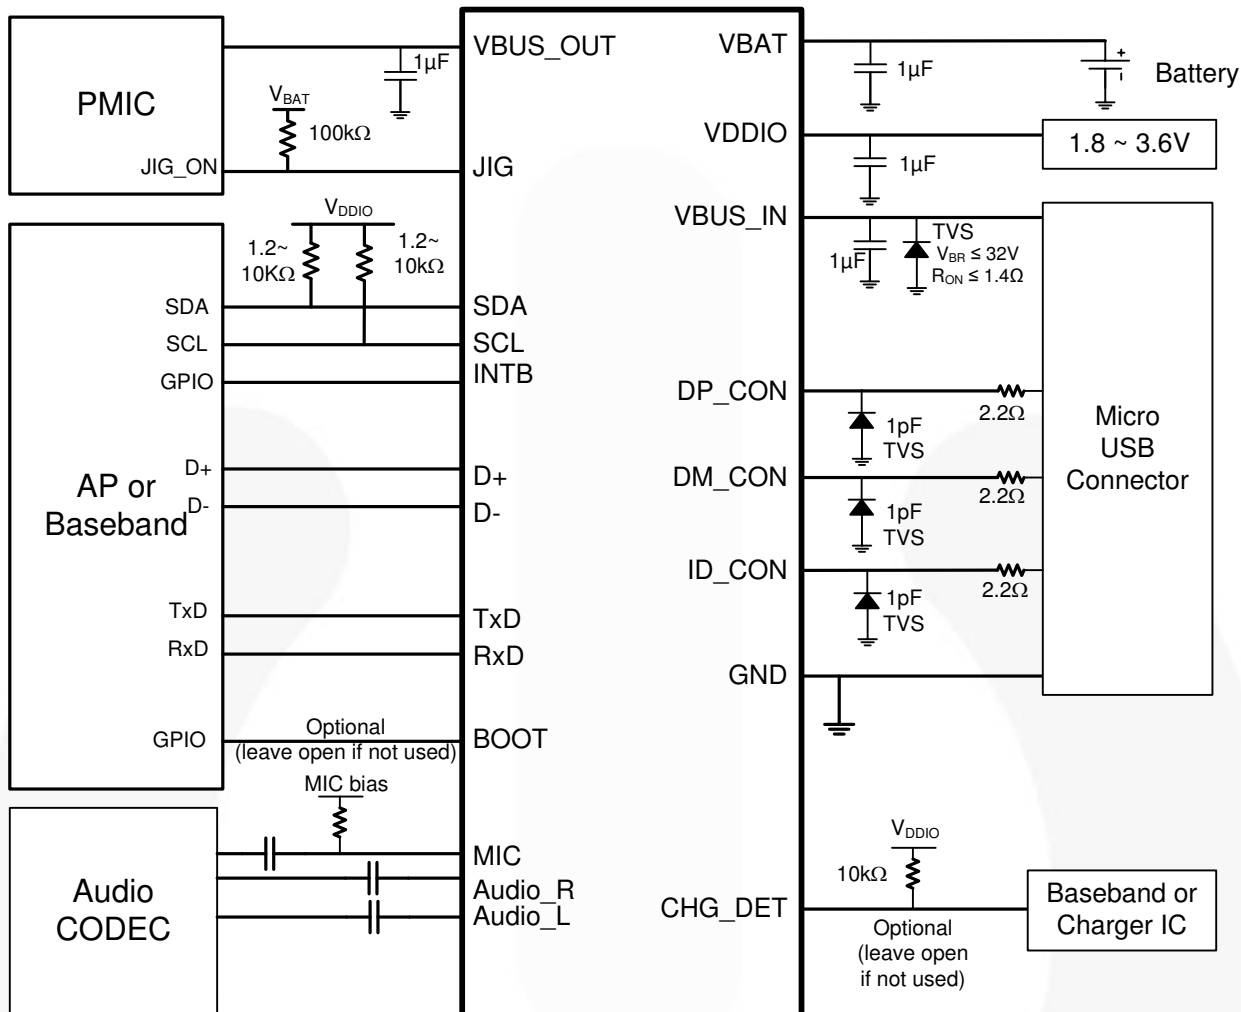

Figure 27. Reference Schematic
3. Add as large a decoupling capacitor as possible ($\geq 1\mu\text{F}$) between the V_{BAT} pin and GND to shunt any power supply noise away from the FSA9280A. Also add decoupling capacitance at the PA (*see the reference application schematic in Figure 27 for recommended decoupling capacitor values*).
4. Add 33pF shunt capacitors on any PCB nodes with the potential to collect radiated energy from the phone transmitter. At a minimum, add these 33pF capacitors to the MIC pin (*see Figure 27*).